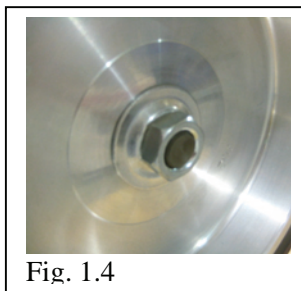

Fig. 1.4
1. Remove nut and washer from drive arbor. See figure 1.4